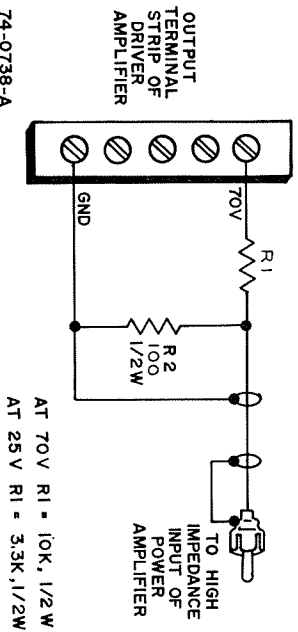

Figure 2 — Input From Another Amplifier
**INPUT FROM ANOTHER AMPLIFIER.** The HTA-125A/HTA-250A amplifiers may be driven from an amplifier that provides a 25-volt or 70-volt constant voltage output. Connect the output of the driver amplifier to one of the HI-Z INPUT jacks via a resistor network (see Figure 2). The resistors shown are in addition to the normal loudspeaker load on the output of the driver amplifier.
**INPUT LEVEL CONTROL.** The input level control (see Figures 2,3), located on the rear panel, adjusts the input signal applied to the amplifier. Turn the adjustable screw clockwise to increase the level.
**AC LINE FUSE.** Figures 2 and 3 show the location of the AC line fuse. Replace the fuse only with same type and rating. If a second fuse blows, do not make any attempt to operate the unit. Consult the Bogen Service Department or an authorized service agency.